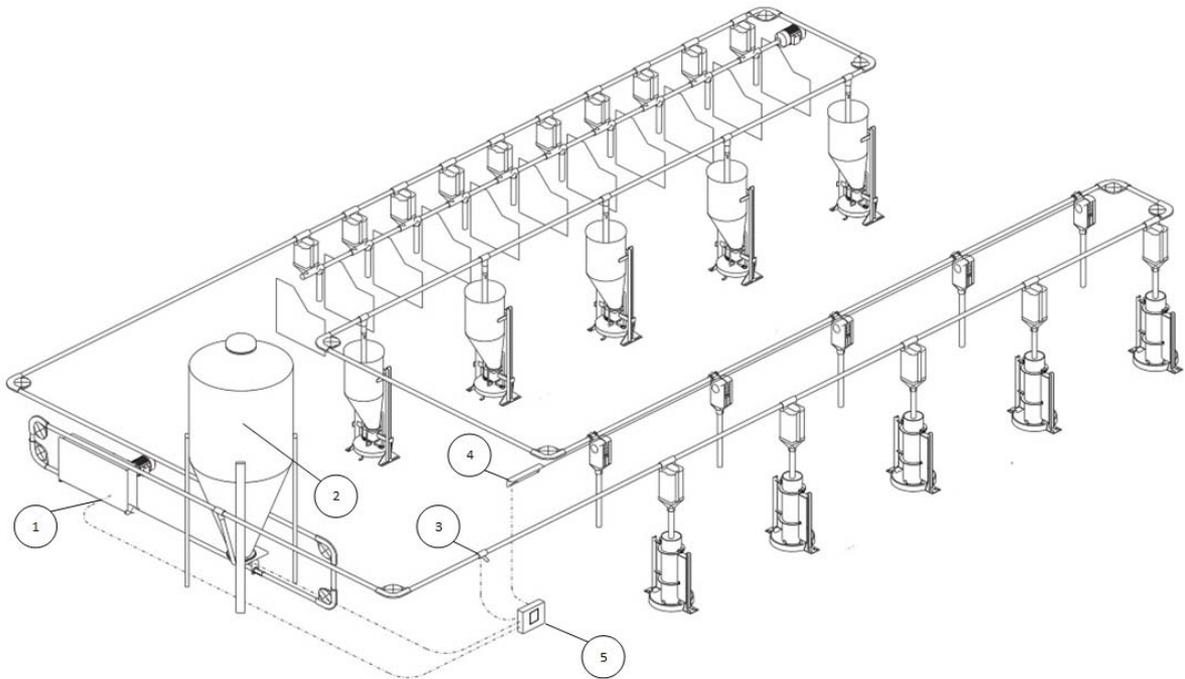

Figure 3-2: Example of a dry feeding system
figure 3-2 shows an example for a dry feeding system. The dry feeding system consists of one feed circuit with a silo (2). The feed chain's drive motor (1) and the silo (2) are both controlled by the control box (5). The inputs of the control box are responsible for checking the full sensor (3) and the drive motor's safety switch (1).